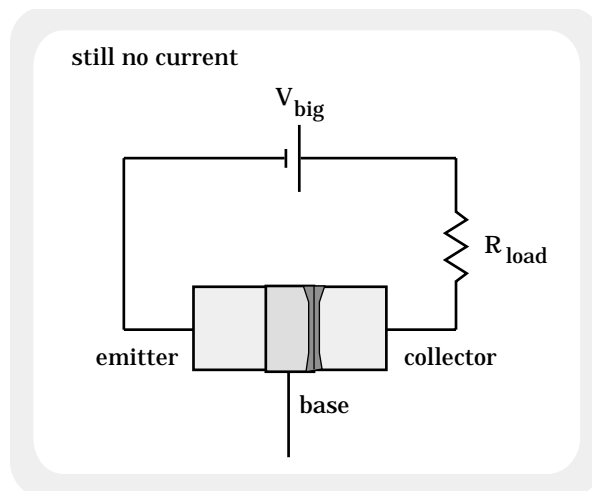

FIGURE 21.18a
4.) Figure 21.18a shows the above arrangement with three modifications: a large DC power supply replaces the AC power source, a lead has been attached to the mid-section semi-conductor, and names have been given to the three transistor terminals.